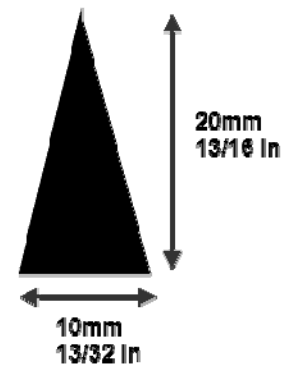

FIGURE 6
8. The adhesive must be applied in a triangular shaped bead of **20mm X 10mm** (13/16 in X 13/32 in) as shown on **FIGURE 6**.